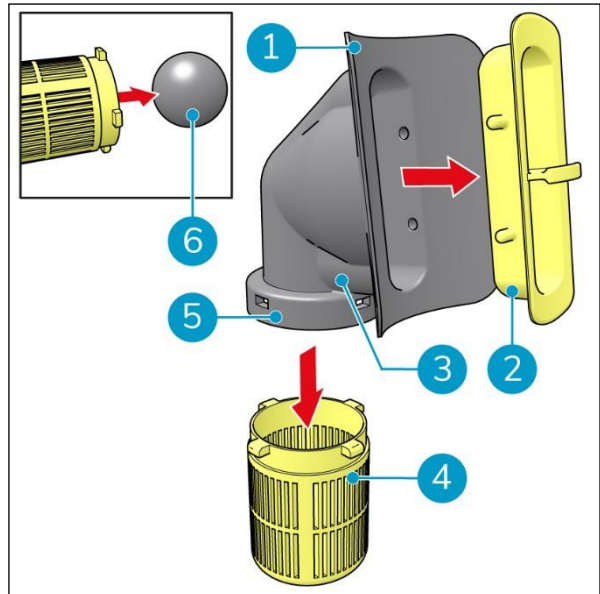

Figure 31
4. Pull the support frame (Figure 31, pos 2) out of the rubber housing (Figure 31, pos 3). To do this, bend the rubber flaps (Figure 31, pos 1) outwards to release the 4 nocks of the support frame.
5. Pull the float ball housing (Figure 31, pos 4) out of the rubber housing. To do this, bend the rubber ring (Figure 31, pos 5) outwards to release the 4 nocks of the float ball housing.
6. The floating ball (Figure 31, pos 6) comes out.